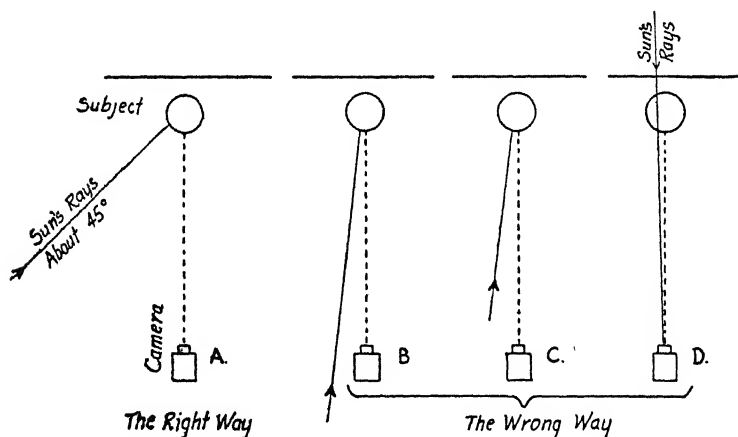

FIG. 73.—HOW TO TAKE SNAPSHOTS
Now see to it that (2) the rays of the sun shine on the subject preferably at an angle of about 45 degrees as shown at *A* in *Fig. 73*, as this will give tone values, that is, light and shade effects which will produce the greatest depth. If you let the light rays fall on the subject from above and back of the camera, see *B*, the picture will then likely look flat; if they fall on the